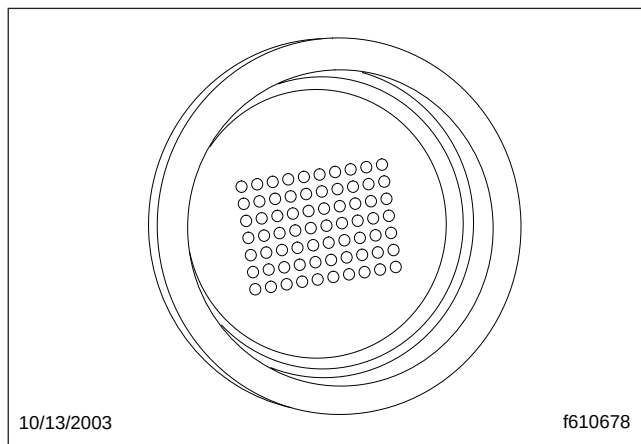

Fig. 8.24, Power-Up Dot Display
3. On power up, the current gear indicator shows the dot display, arranged in a square pattern. All dots in the pattern should light up, without gaps or spaces. See Fig. 8.24.